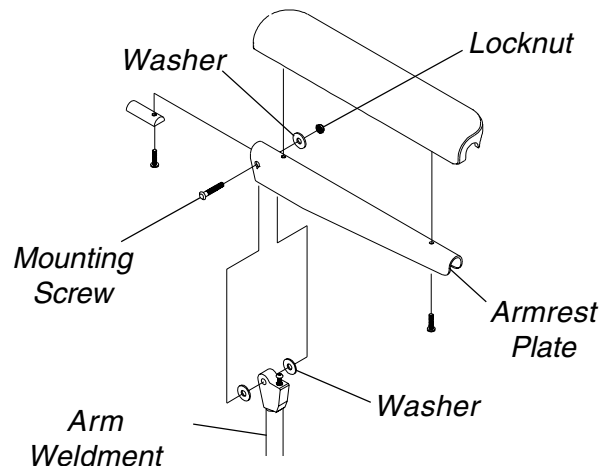

FIGURE 2 - REPLACING CAPTAIN'S VAN SEAT ARMREST PLATE
REPLACING CAPTAIN'S VAN SEAT ARMREST PLATE (FIGURE 2)
1. If necessary, remove the three (3) mounting screws, spacers and locknuts that secure the joystick mounting bracket to the armrest plate.
4. Position the **NEW** armrest plate on the armrest weldment and secure with the mounting screw, washers, and locknut. Refer to FIGURE 2 for correct hardware orientation.
6. If necessary, reinstall the three (3) mounting screws, spacers and locknuts that secure the joystick mounting bracket to the armrest plate.